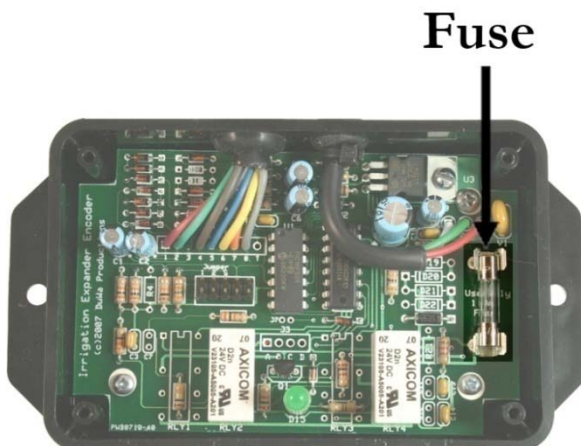

Figure 2 – Fuse Location
3. Remove the old fuse and replace with a fuse of identical rating (1 amp, 5mm x 20mm). See Figure 2 below for the fuse location.